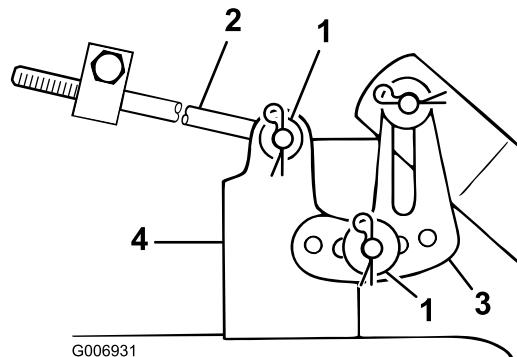

Figure 39
9. Remove the hairpin cotter and washer from the end of the long rod (Figure 39). Slide the rod out of the mower mount.
10. Remove the hairpin cotter and washer at the mower leveling bracket (Figure 39). Slide the bracket off of